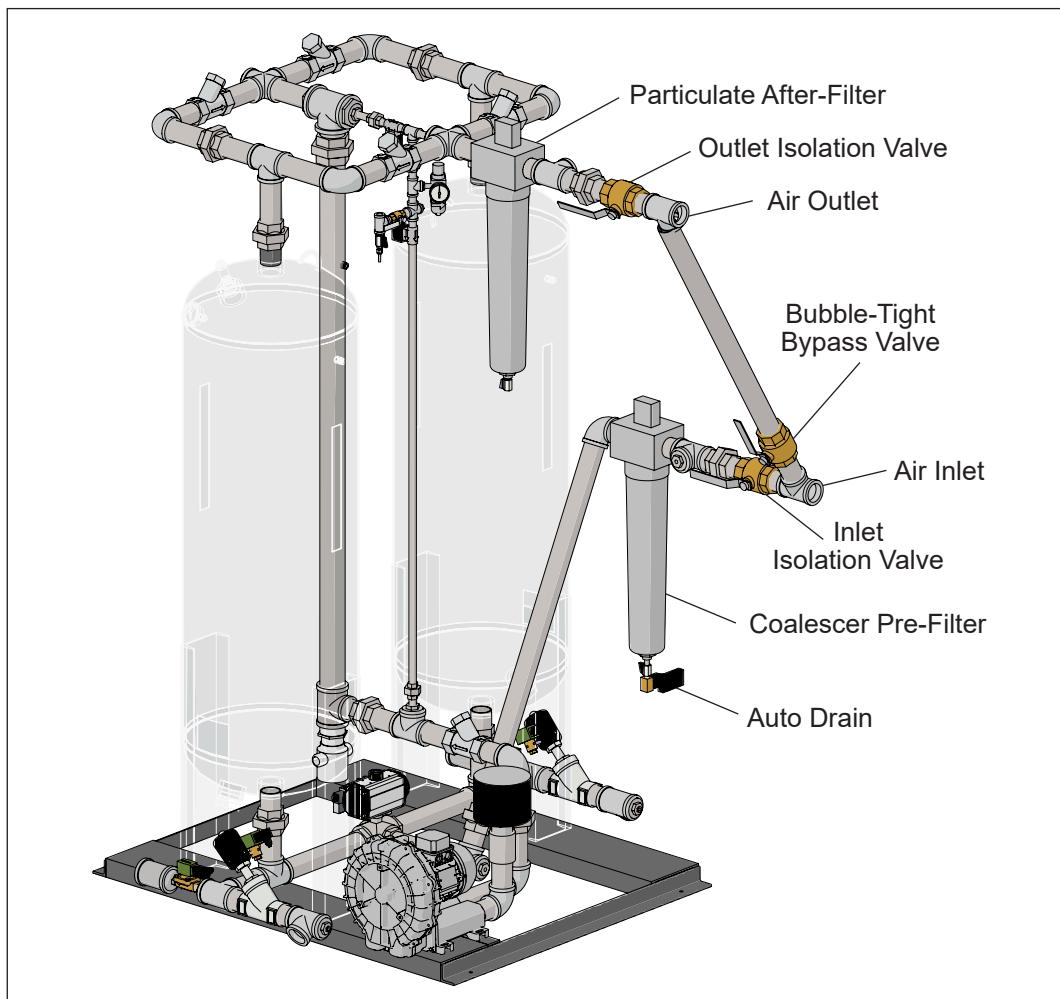

Figure 4.1 — Installed Components
2. Install inlet piping, including an isolation valve (refer to Figure 4.1).